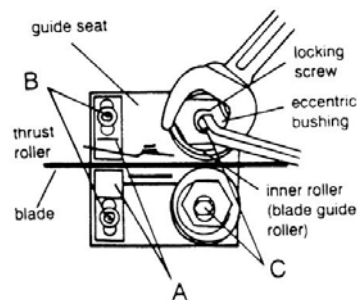

Figure 13. Guide Roller Adjustment
2. See Figure 13. Loosen blade guides (**A**) by loosening screws (**B**). Slide blade guides away from blade.